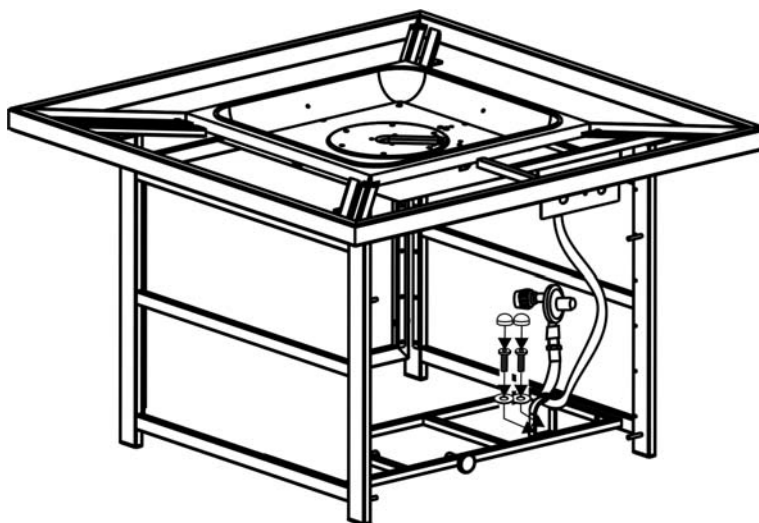

Figure 5
5. Secure the regulator hose to the middle support by using two 1/4"x15 mm bolts and Ø6.5X1.0 mm washers as shown in Figure 5. Guide the bolts through the holes in the metal plate, into the pre-drilled holes in the middle support. **Hand tighten only.**